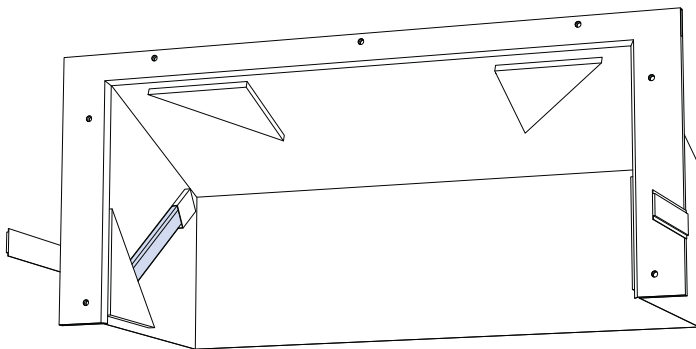

Figure 25: Inserting Rain Hood Struts
4. Fold the two struts downward and outward and insert them into the two side pockets (Figure 25).